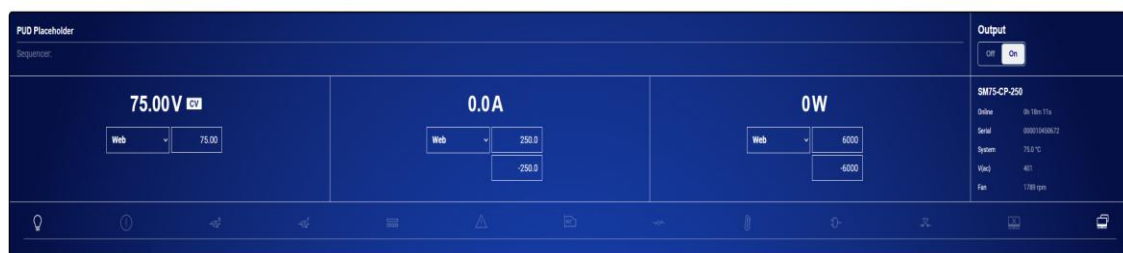

Figure 5.6: Remote display on web interface
- In remote operation different programming source options are available such as 'eth', 'web', 'seq', 'slot1', etc. See a screenshot of the remote display on the web interface in Figure 5.6.